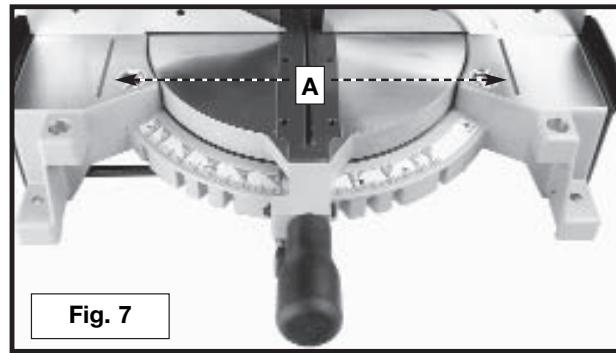

Fig. 7
**WARNING** The area inside the two red lines on the table (A) Fig. 7 is designated as a "HAZARD ZONE". Never place your hands inside this area while the machine is running. Maintain hands 6" from blade.